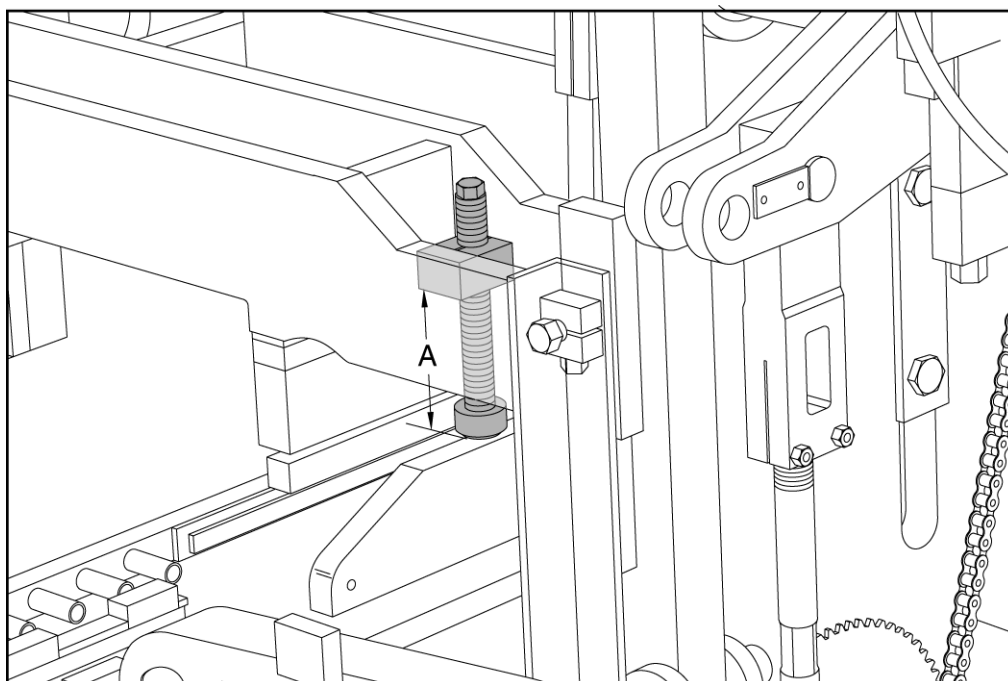

Figure 4.14 SHOCK ABSORBERS ADJUSTMENT
4.1.7 Adjust the shock absorbers to a dimension **11 15/16" [303mm]** (represented by "A" in figure 4.14) from the bottom of the clamp blocks to the bottom of the rubber pads.